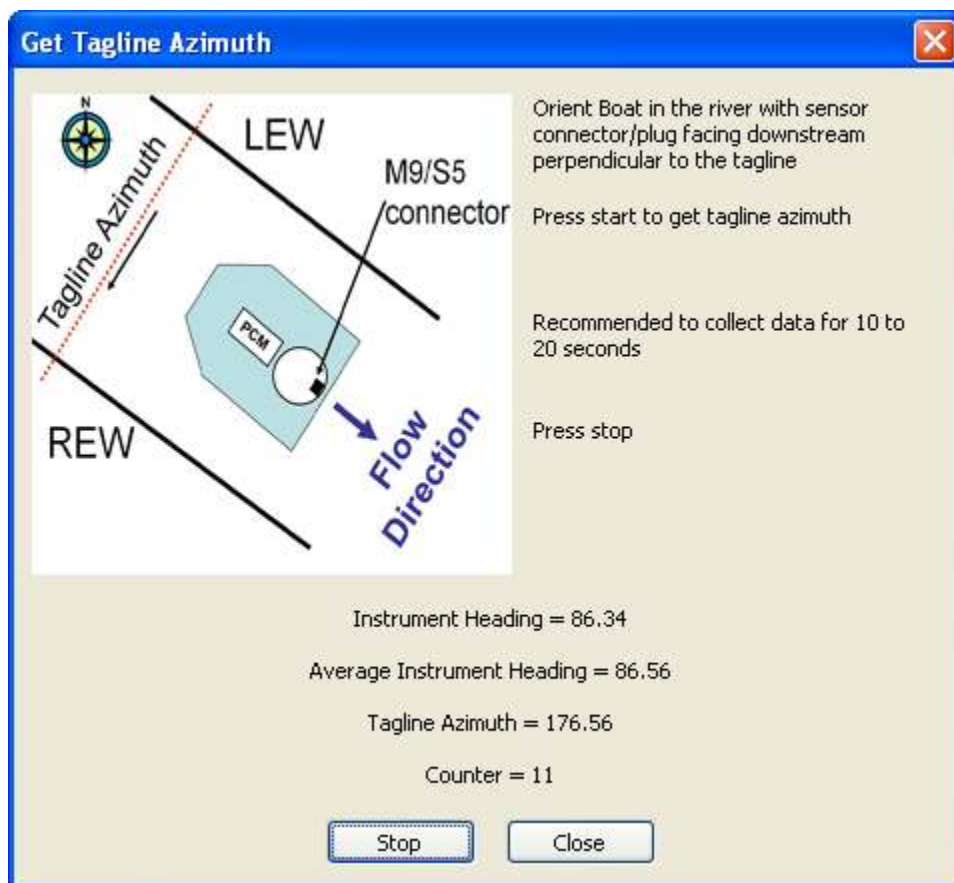

Figure 117. Get Tagline Azimuth
2. Once the M9/S5 has been correctly aligned with the river and is relatively steady press **Start** to collect data. During this time the compass will display instrument heading at 1-second intervals, average instrument heading, computed tagline azimuth, and the number of samples (in seconds) as shown in **Figure 117**. After 20-30 seconds of data collection press **Stop** and close the dialog. The tagline azimuth field in the system settings dialog box will automatically be updated with the tagline azimuth measured using *Get Tagline Azimuth*.